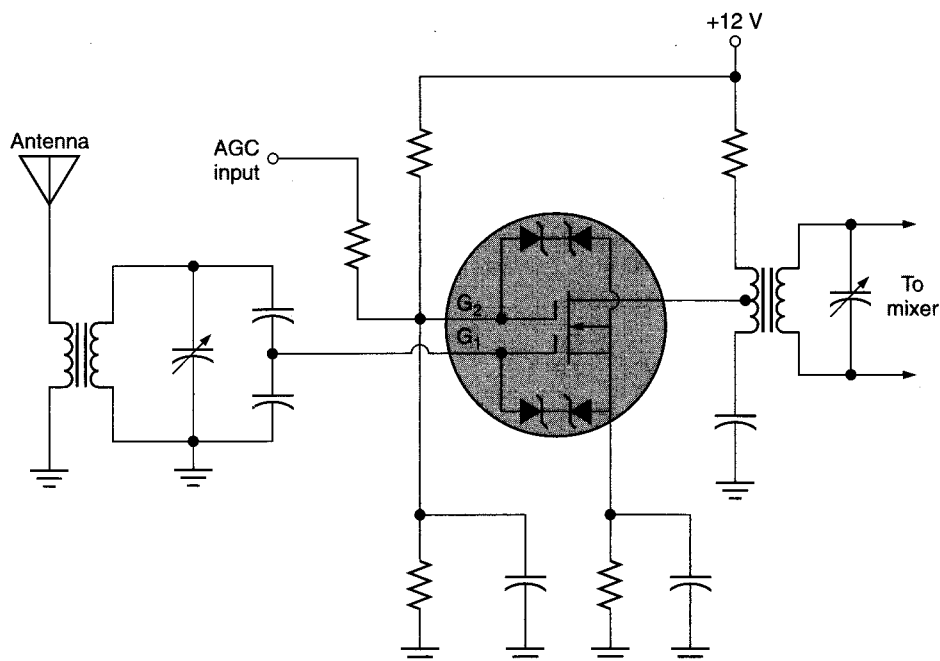

FIGURE 13.27 Dual-gate MOSFET RF amplifier.
The dual-gate MOSFET can also be used in an RF amplifier. Recall that the RF amplifier is the “front-end” amplifier in an AM receiver. A dual-gate MOSFET RF amplifier is shown in Figure 13.27. Note the zener diodes drawn inside the dual-gate MOSFET. These diodes are built into the MOSFET to protect the component from static electricity. As you know, the MOSFET is extremely sensitive to static electricity. The zener diodes protect the component inputs. Except for that, they have no effect on the operation of the circuit.
The AGC input shown in Figure 13.27 is a *feedback path* from a later stage in the receiver. The dc level at this input is determined by the amplitude of the signal in the later stage.
- 23. An RF amplifier that uses a dual-gate MOSFET is shown in Figure 13.27. One gate is used as a signal input, and the other is used for an *automatic gain control* (AGC) input.